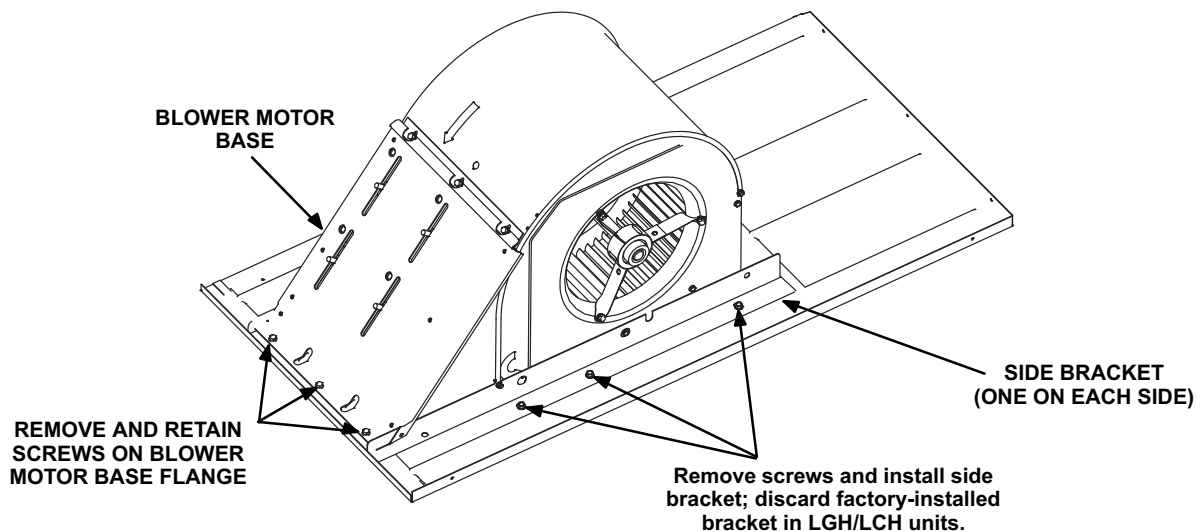

FIGURE 1
Remove existing screws and use to install side brackets as shown in figure 1.
Remove and retain screws securing factory-installed side brackets. Discard factory-installed brackets and install kit side brackets using retained screws. See figure 1.
- 4- Remove and retain three screws on blower motor base flange. See figure 1.